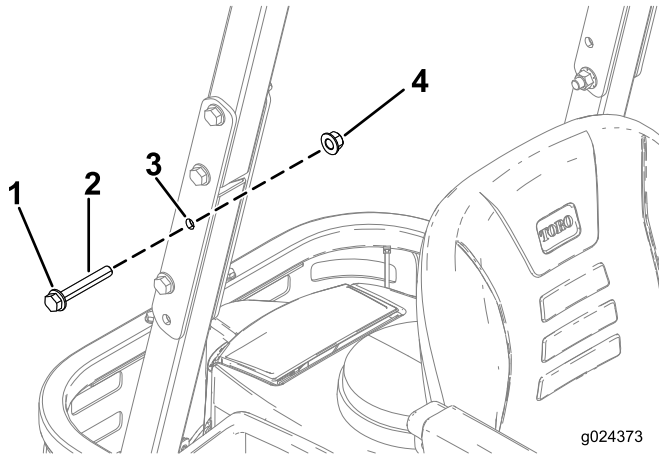

Figure 3
1. Remove the bolts (1/2 x 3 inches), washers, and nuts from the middle hole on the ROPS plate (Figure 3).
3. Install the bolts (1/2 x 3 inches), washers, and nuts removed previously into the middle hole (Figure 3).